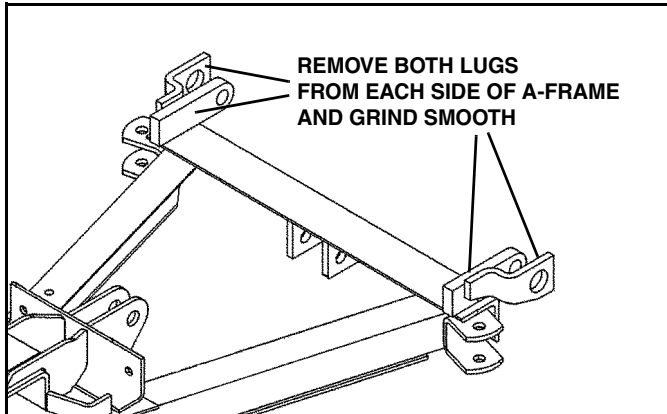

Figure 1-1
4. Cut the light bar brackets and lugs off of the A-frame. Grind smooth. (See Figure 1-1)